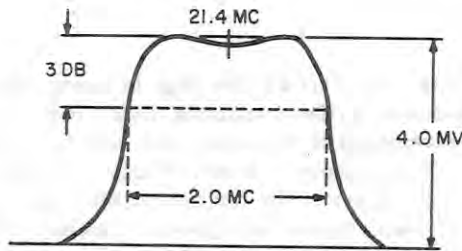

Figure 5-9. IF Response of 30 to 100 mc Tuner
- l. The response at the IF output should have the shape indicated in Figure 5-9.